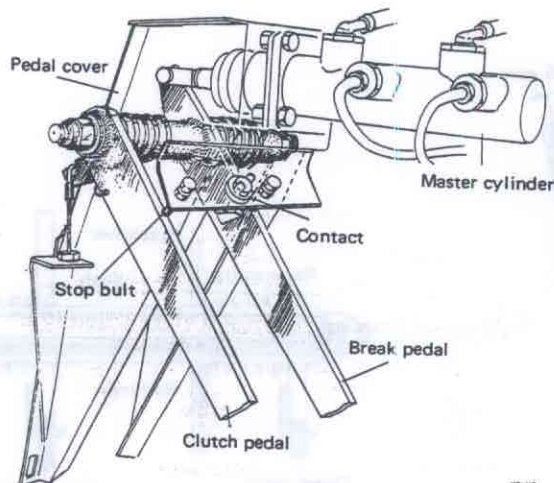

Fig. 41-4. Checking the curvature of thrust plate
1. Remove the stop bolt, see Fig. 41-4.